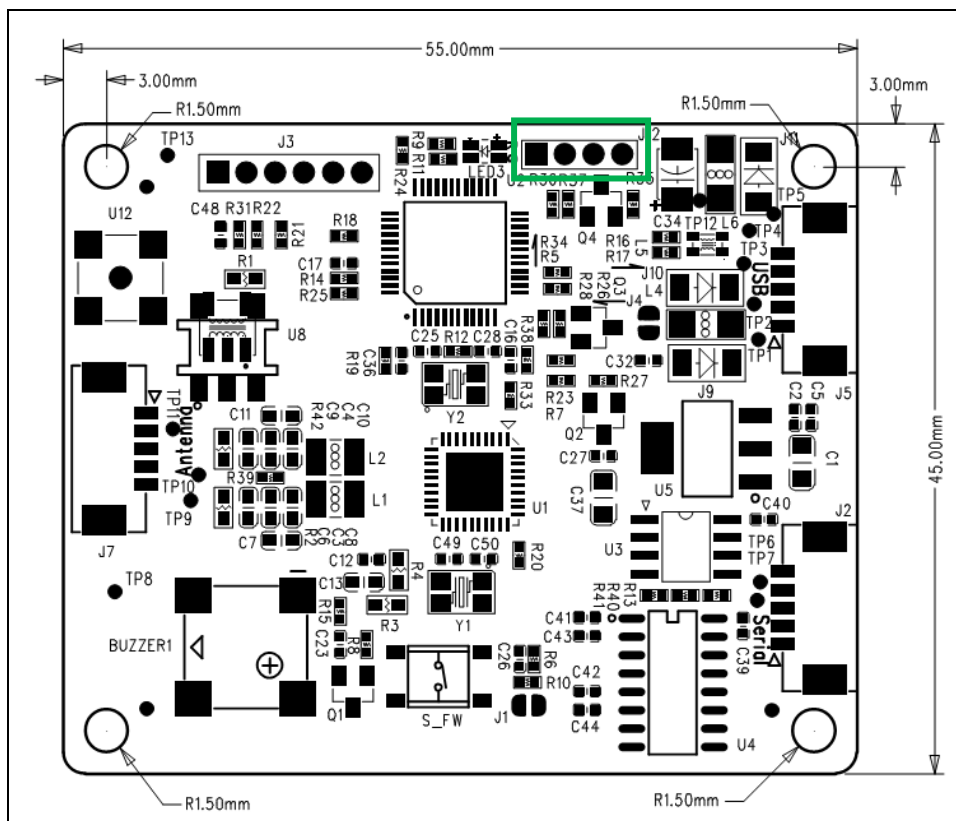
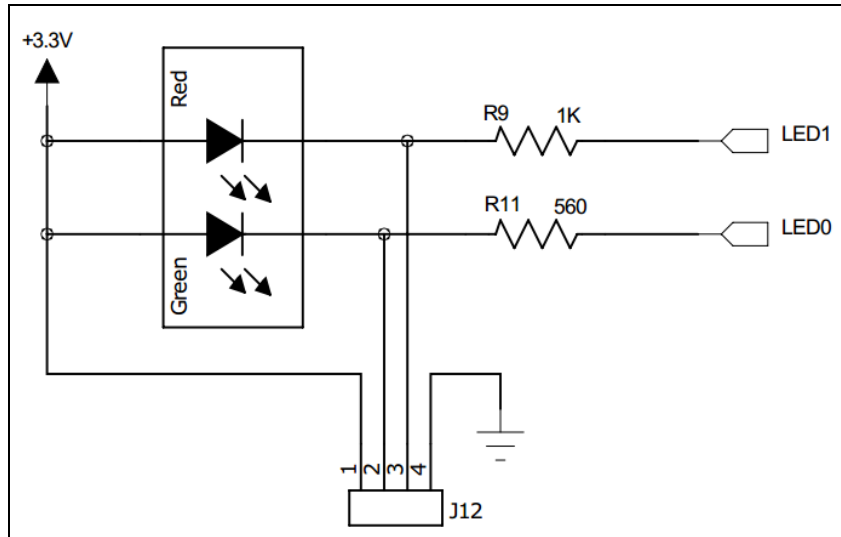

Figure 3: ACM1252U-Y LED Configuration
Figure 4: ACM1252U-Y LED Circuit
1. Connect jumper to **J12** for the LED status of power and card signals (see **Figure 3** and **Figure 4**).